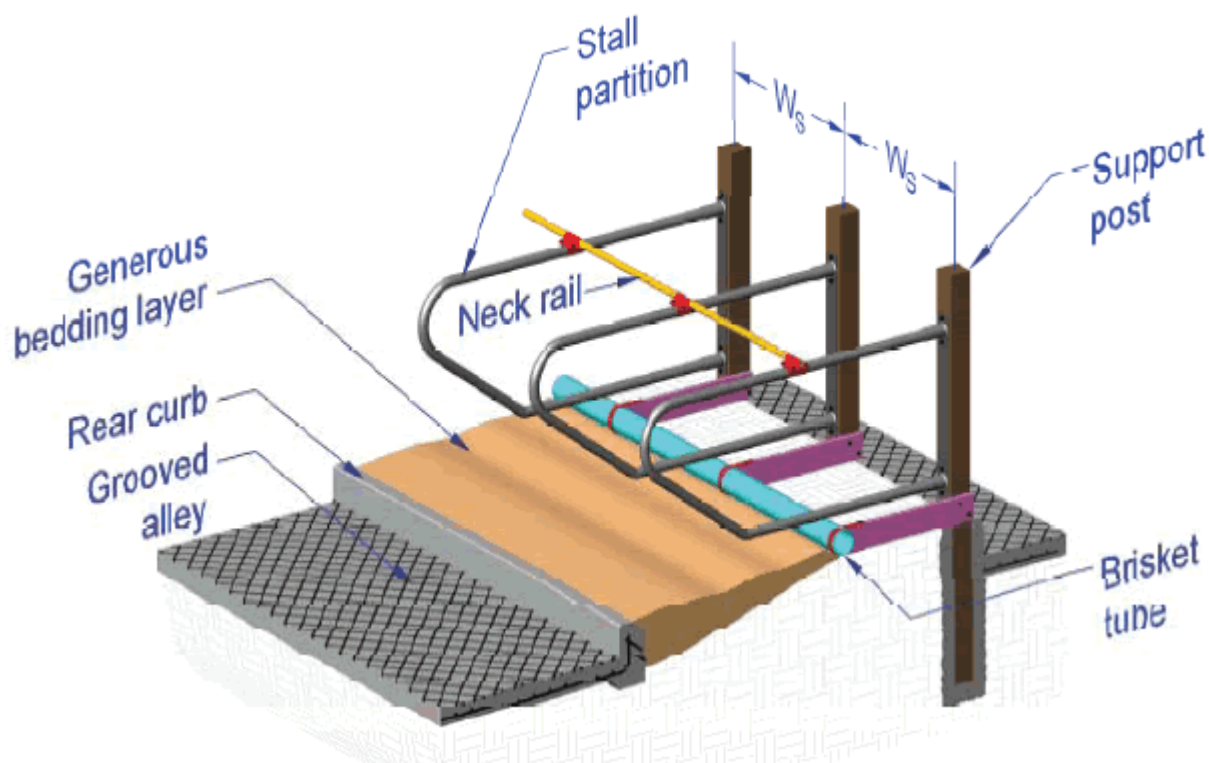

Figure 3. Open front freestall (Penn State DIP 821)
- **Open front freestalls** have a sufficiently open front to allow a cow to extend her head and neck forward into a facing stall, alley or outside the building as she reclines or rises and stall lengths can be shorter. **Figure 3**
- **Mattress bed freestalls** have a firm, usually concrete base, covered by a thick rubber or other resilient mattress and a thin layer (1-2") of bedding. **Figure 3**